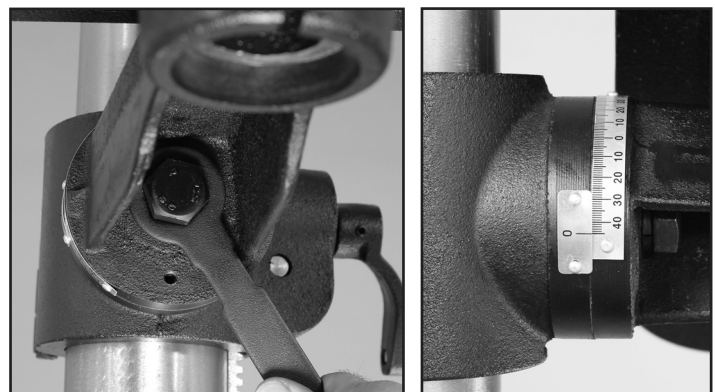

FIG. 15
5. *TO TILT THE TABLE* on an angle, the table and support arm assembly move together. Loosen the large M16x35 Bolt (#19A) with the 24mm wrench provided. FIG. 15 & 16.
6. The table and support arm can be tilted left or right. An Angle Scale (#15A) is provided on the casting to indicate the degree of tilt of the table. FIG. 15. When the desired table tilting angle is found, the large bolt needs to be tightened.